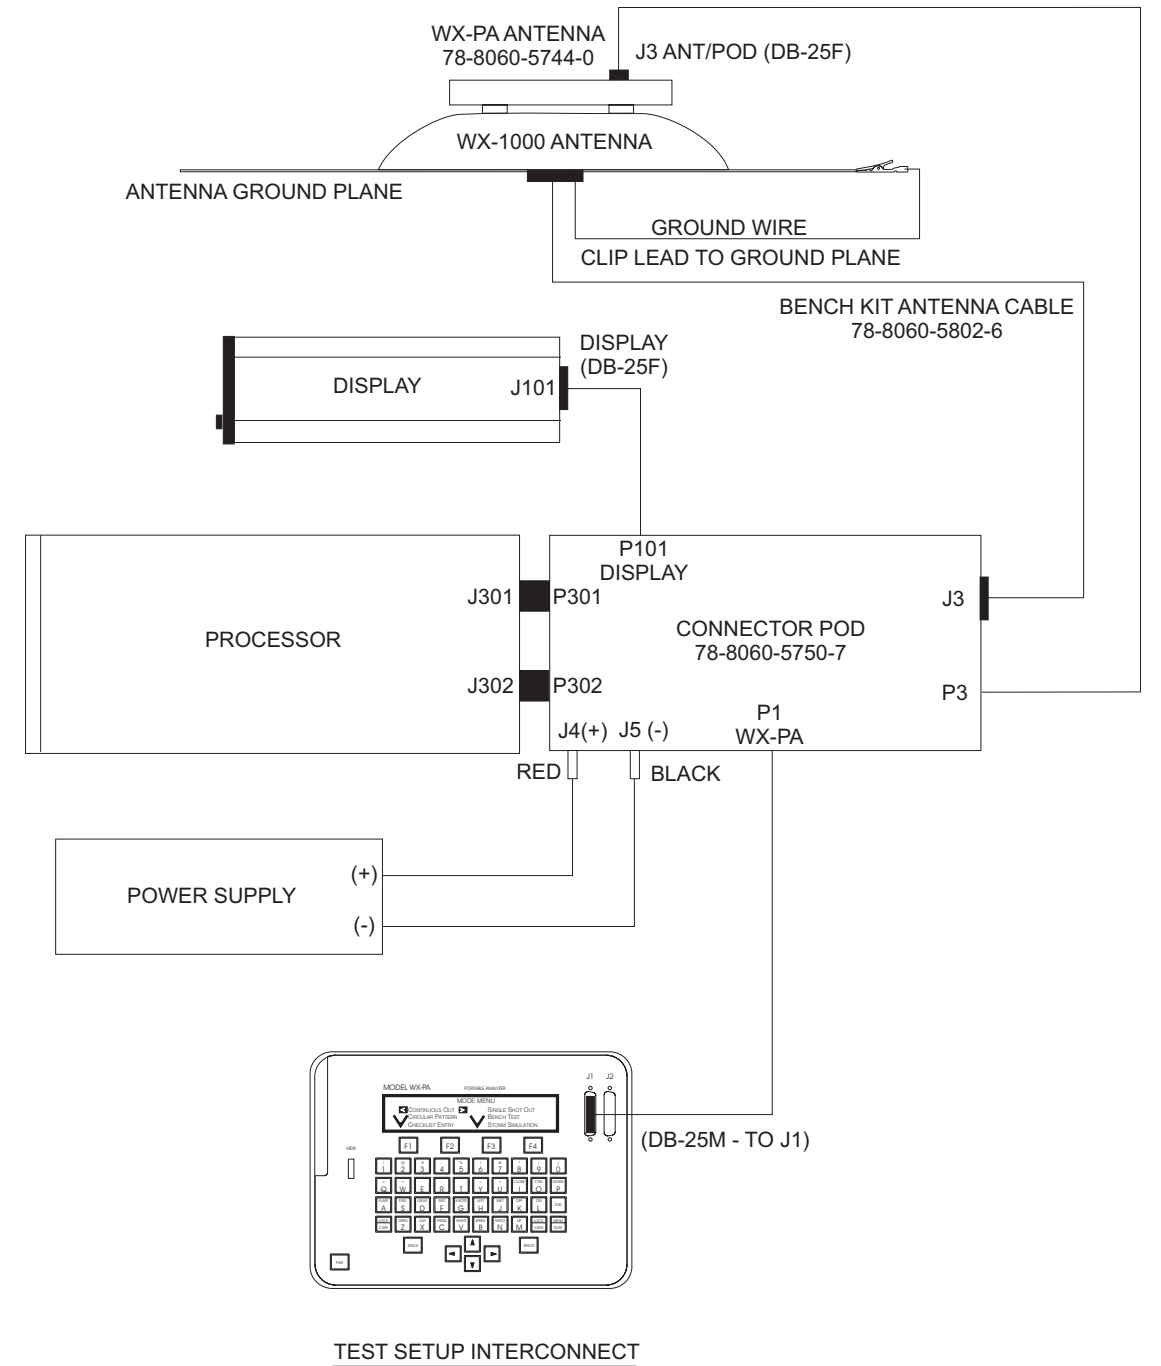

Figure 4-2. Bench Test Setup With Antenna
Antenna Ground Plane	Locally Fabricated (see figure 4-2)
1. To do the bench tests without the antenna connect the equipment as shown in figure 4-1. To do the bench test with the antenna connect the equipment as shown in figure 4-2. Common problems encountered during bench testing include: